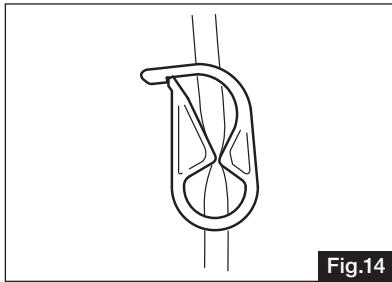

Fig.14
- Close the Tube Clamp located between the Irrigation Tube Needle and the Irrigation Pump (Fig. 14).